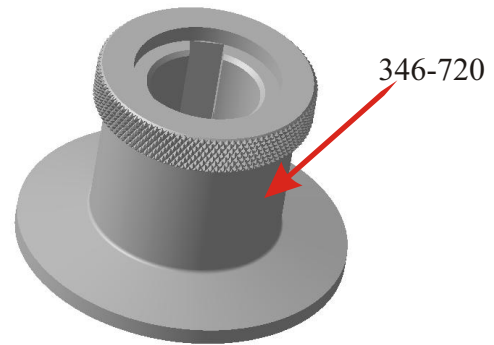

Fig. 18
- Press out the crankshaft with bearing from the front housing using device set 346-720 (Fig. 18).